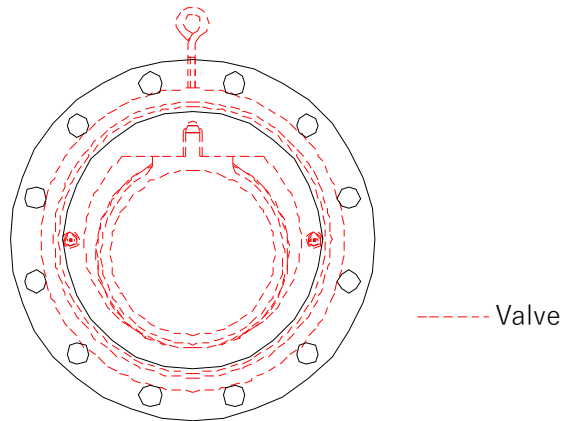

Fig 1
- 2) Insert a washer and a bolt into the flange. Insert a washer and a nut from the flange on the opposite side and tighten temporarily by hand. (The valve is inscribed on the flange connecting bolt as shown in Fig. 1.)